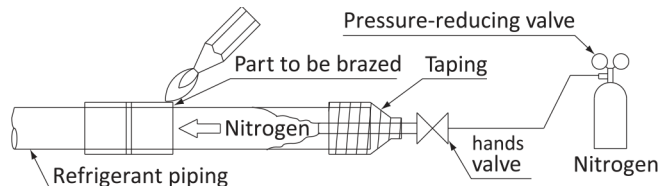

FIGURE 14
- **WHEN BRAZING THE REFRIGERANT PIPING, PERFORM NITROGEN REPLACEMENT FIRST OR PERFORM THE BRAZING WHILE FEEDING NITROGEN INTO THE REFRIGERANT PIPING. (REFER TO FIGURE 14.)**